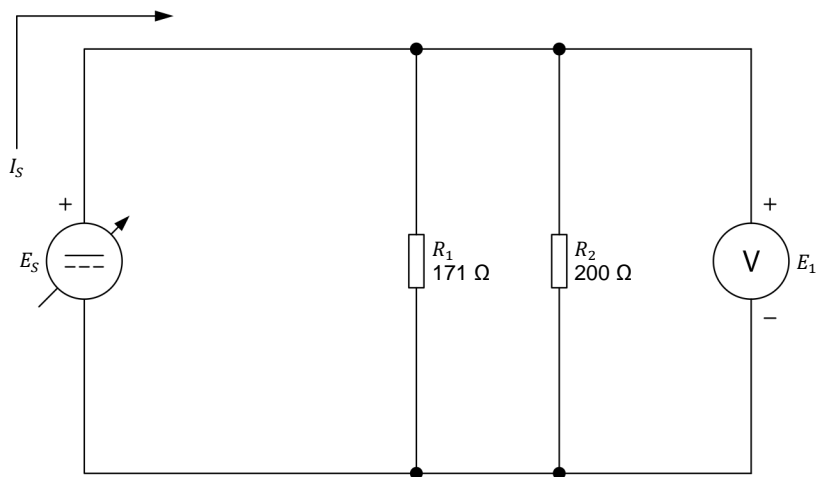

Figure 27. Measuring power in a circuit with resistors in parallel.
24. Set up the circuit shown in Figure 27. To obtain the resistor arrangement of Figure 27, make the necessary connection(s) and switch settings on the Resistive Load module.
Set a multimeter to measure dc voltage and connect it across resistors  $R_1$  and  $R_2$ , as Figure 27 shows.